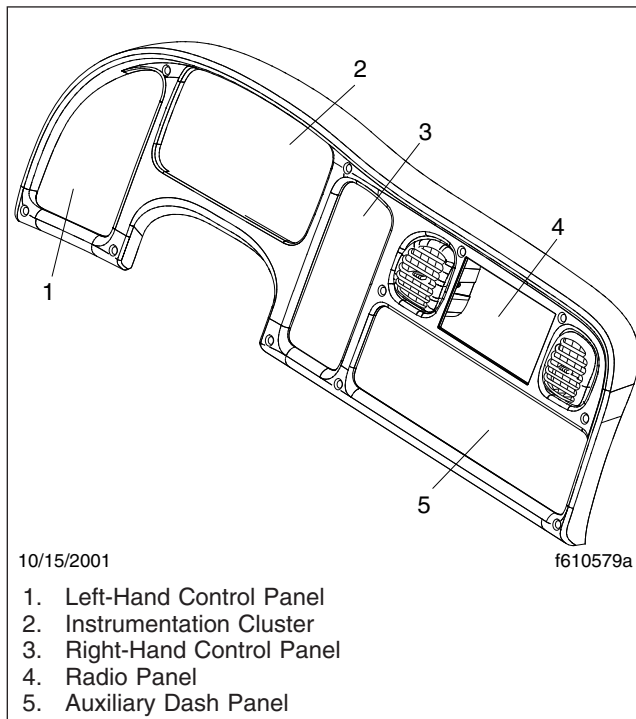

Fig. 5.3, Control Panels
The left-hand control panel (**Fig. 5.3**, Item 1) contains a face vent and four switches arranged in a vertical line. In the standard cab, the four switches usually consist of the headlight, panel light increase/decrease, and the cruise control on/off and set/resume switches.
The right-hand control panel (**Fig. 5.3**, Item 3) usually contains the transmission push-button shift selector (vehicles with an automatic transmission) and the
The auxiliary dash panel (Fig. 5.3, Item 5), located below the radio panel, contains the parking brake control and trailer air supply valves, the cigarette lighter (push the knob in to heat the element; the knob will pop out when the element is hot), and a variety of switch options. The auxiliary panel may also contain an antenna connection and positive (+) and negative (-) power connections for a citizen's band (CB) radio.